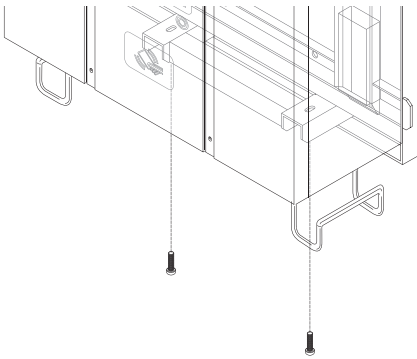

Fig. 7: Wallmount fastening screws
2. Fasten the EV 3000 charging unit to the mounting bracket, using two M6 screws (see Fig. 7).